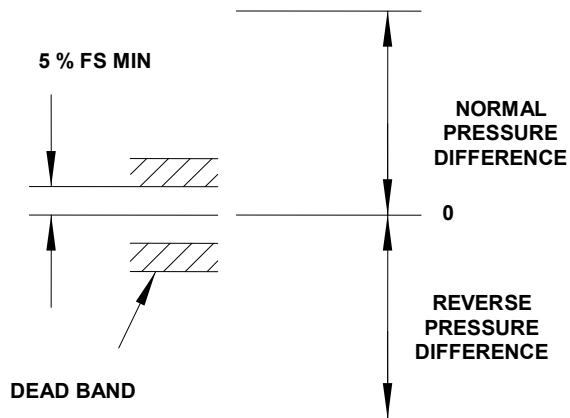

Fig. 5
It is recommended that the minimum setting is to be not less than 5% of full scale (FS) either side approaching zero (see fig 5).